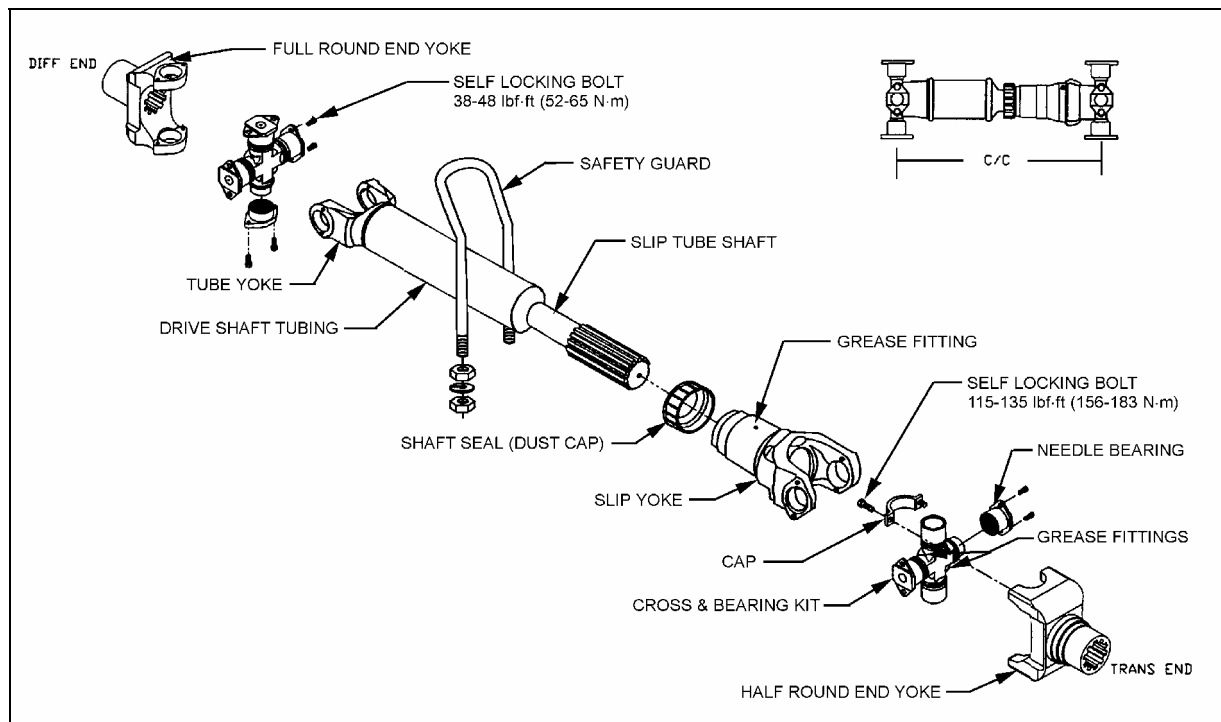

FIGURE 1: PROPELLER SHAFT ASSEMBLY
| FIGURE 1: PROPELLER SHAFT ASSEMBLY | 09-2 |
The propeller shaft transmits power from the transmission to the differential (Fig. 1). Depending on the vehicle's transmission type, three lengths of propeller shafts are available. Refer to paragraph "6. SPECIFICATIONS" at the end of this section for details. All propeller shafts are "Dana 1810" type with tubular shafts. They are provided with two heavy-duty universal joints (Fig. 1).
- Screw bolts to the specified torque (Fig. 1).